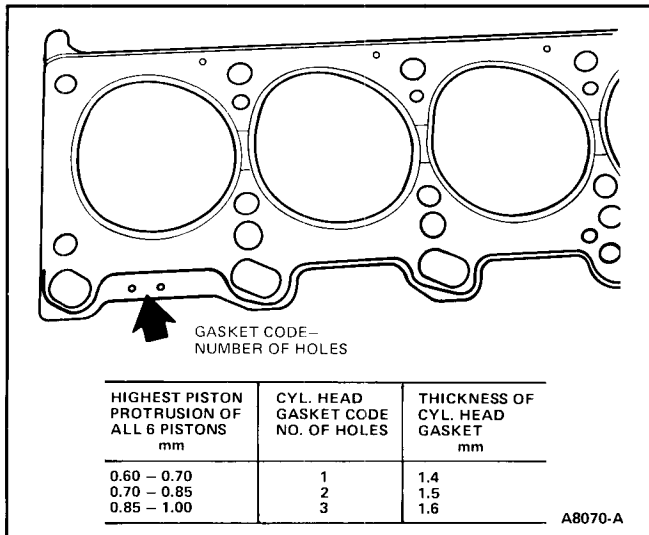

FIG. 29 Selecting Proper Cylinder Head Gasket
- h. Using measurement of highest piston, refer to Fig. 29 and select correct cylinder head gasket.